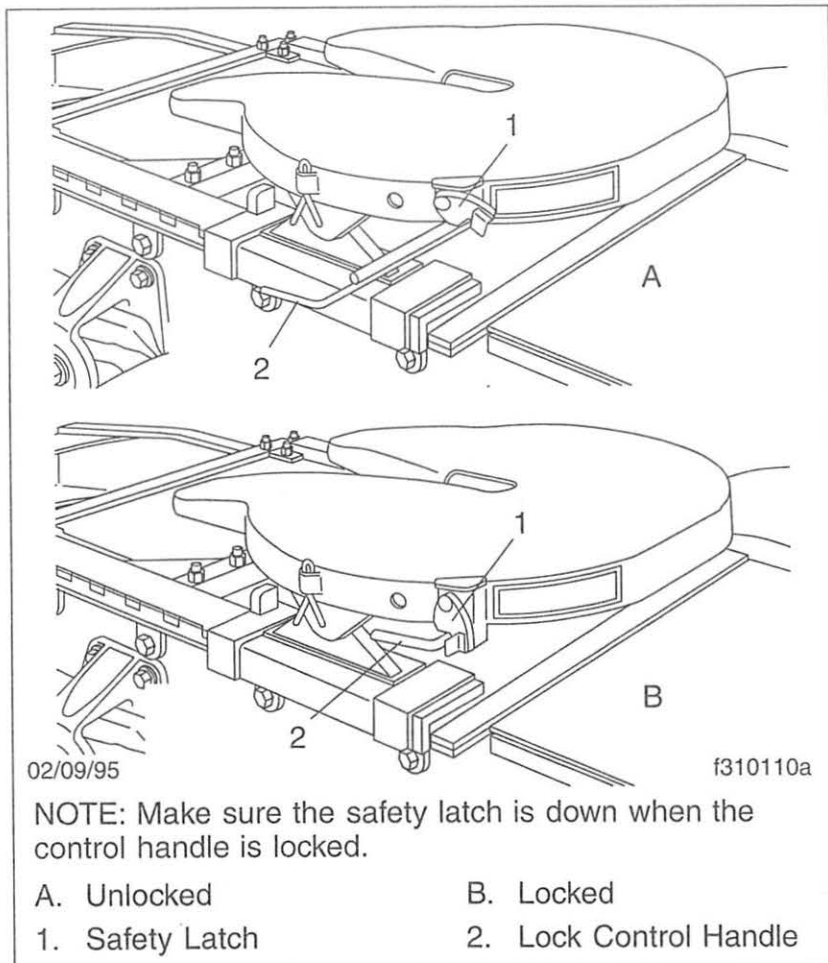

Fig. 10.17, Fontaine Fifth Wheel, Locking and Unlocking
- Make a visual and physical check for positive kingpin lockup. When lockup has occurred, the fifth wheel control handle will have moved to the locked position. Make sure that the safety latch is down over the lock control handle. See **Fig. 10.17**. This will hold the control handle in the locked position.
6. Release the kingpin locking mechanism by lifting the safety latch and pulling the lock control handle to the unlocked position. See **Fig. 10.17**.